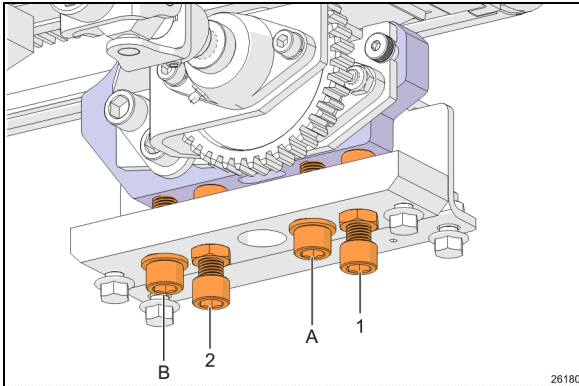

FIGURE 4: LEVELING & TILTING SCREWS
Tilt and leveling adjustment is carried-out by the adjustment plate and screws located under each linear bearing assembly. (Figure 4).
Tilt adjustment is done by changing the linear bearing support inclination using leveling screws 1 & 2 to adjust the angle (Figure 4).
Never unscrew completely retaining screw A and B (Figure 4) or the slide-out may tip inside.
2. Tighten retaining screws A & B (Figure 4)